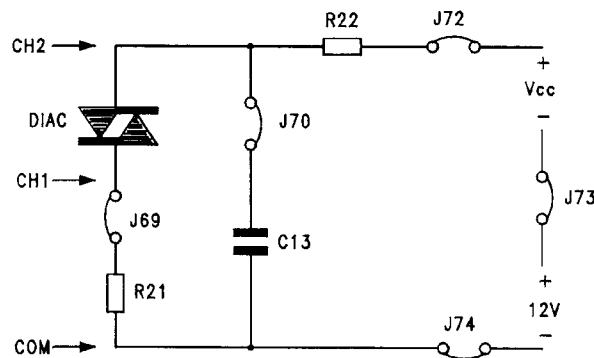

fig.B12.14
- Produce the circuit of fig.B12.14, connecting the jumpers J69, J70, J72, J73, J74